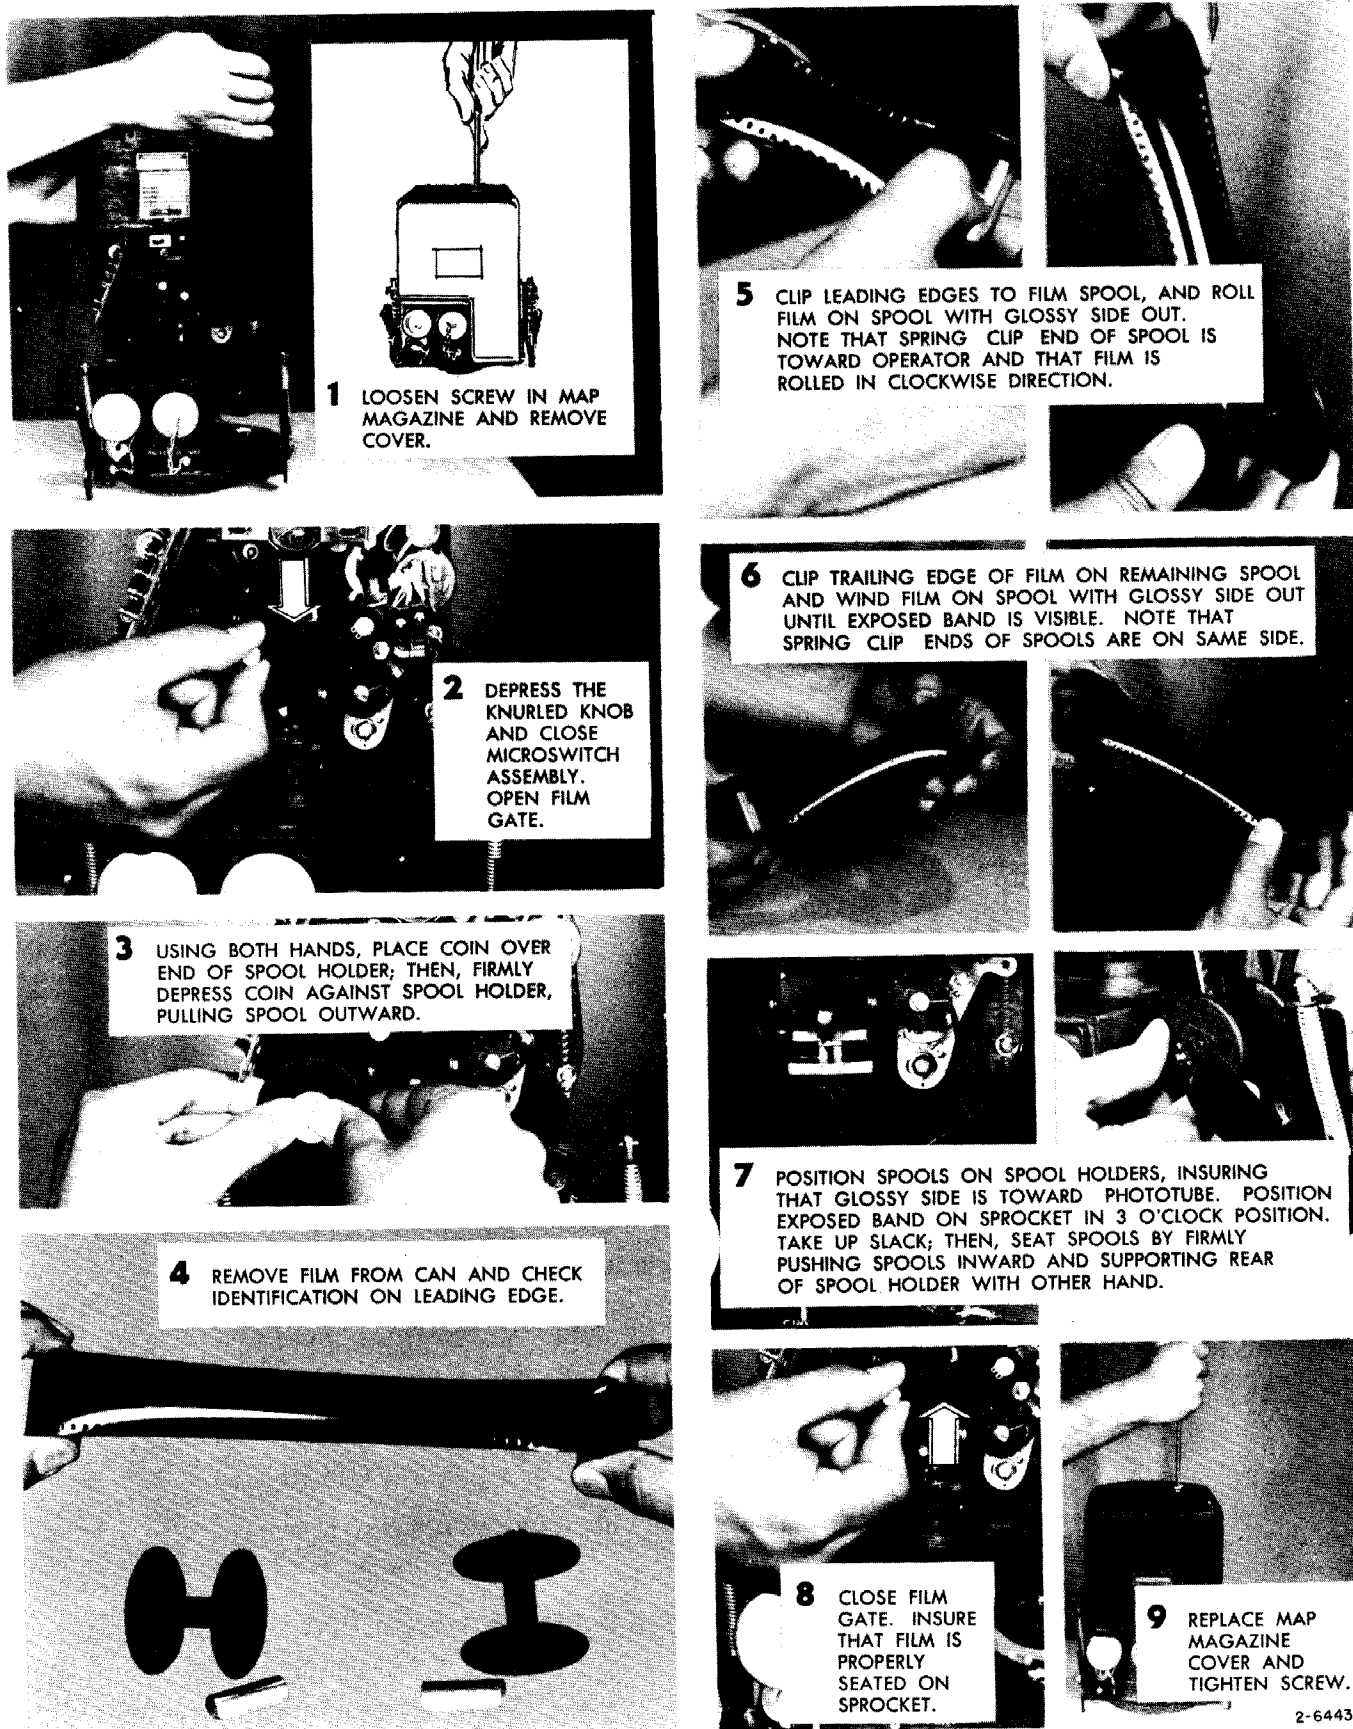

Figure 3-1. Atran Film Installation
- c. Install film in sequence shown in figure 3-1, with a member of Launch Crew monitoring.